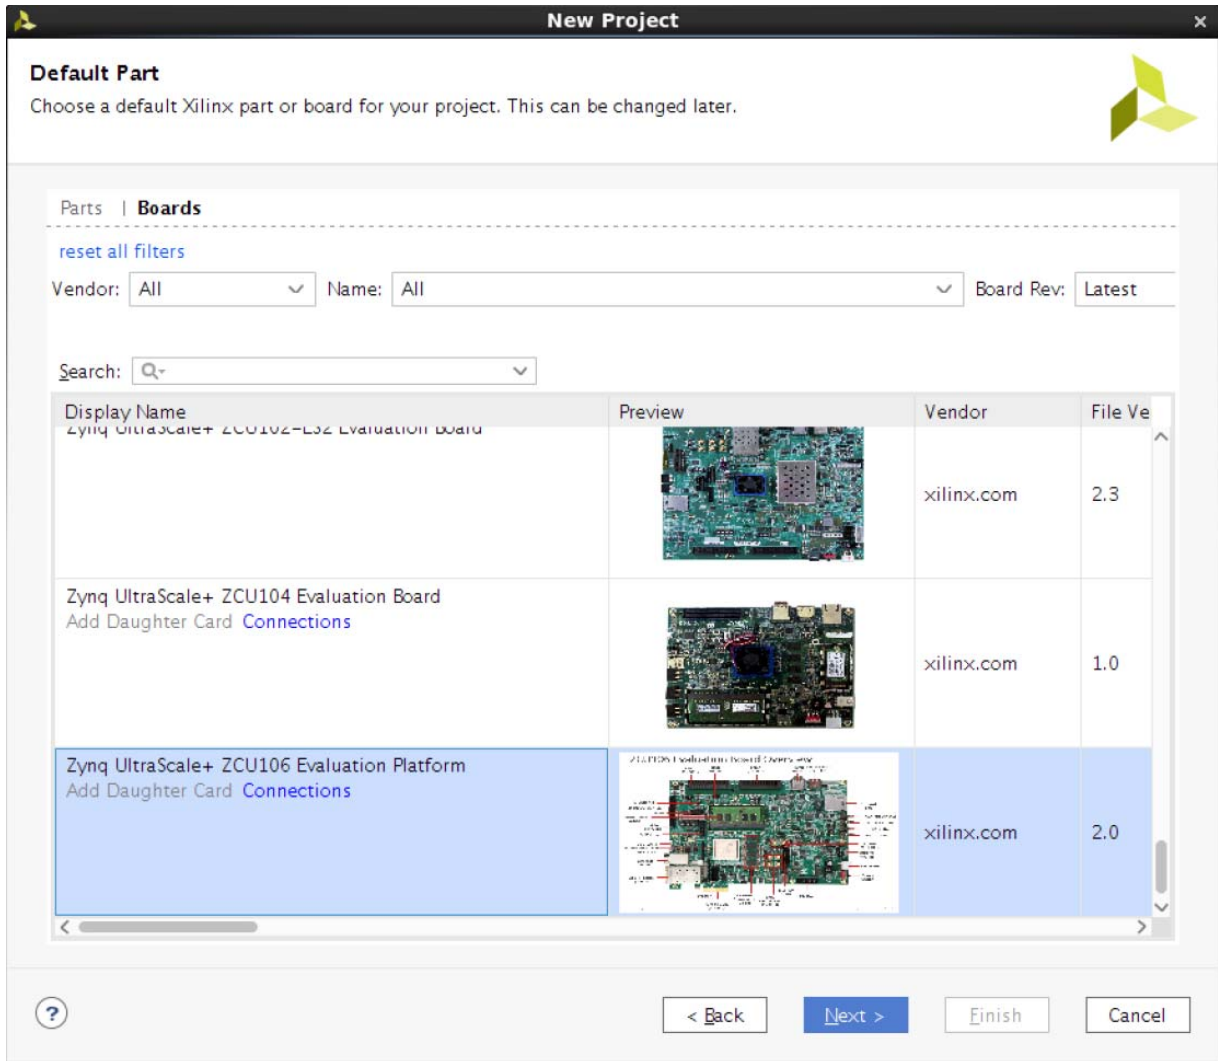

Figure 5-3: Select the ZCU106 Board
3. Select the ZCU106 board, as shown in Figure 5-3.